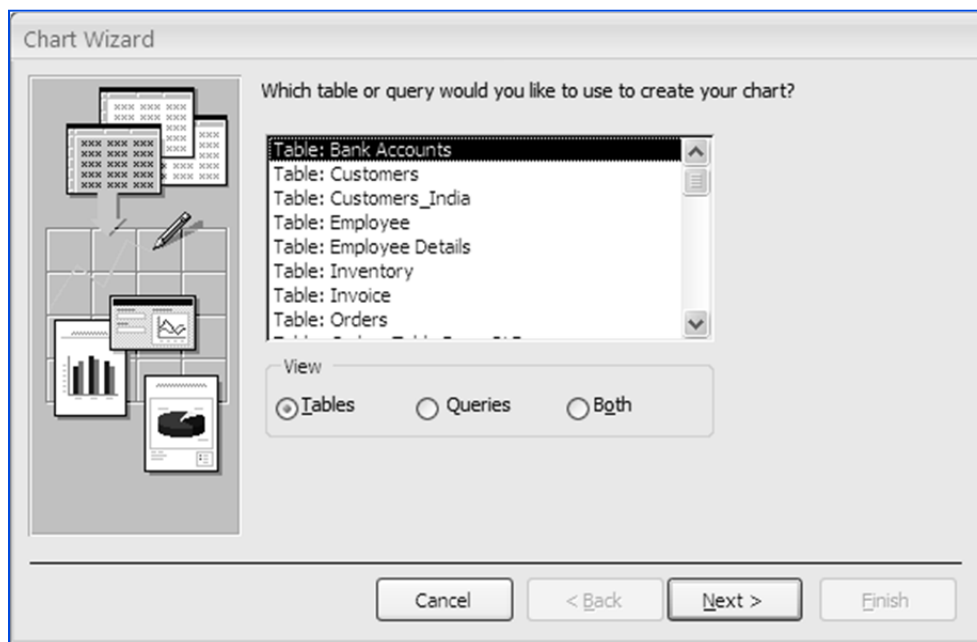

Fig. 2.5.2. Chat Wizard
3. Select *Chart control*  from *Design ribbon* -> *Controls* tab and draw it on the report. The *Chart Wizard* appears, as shown in Fig. 2.5.2.